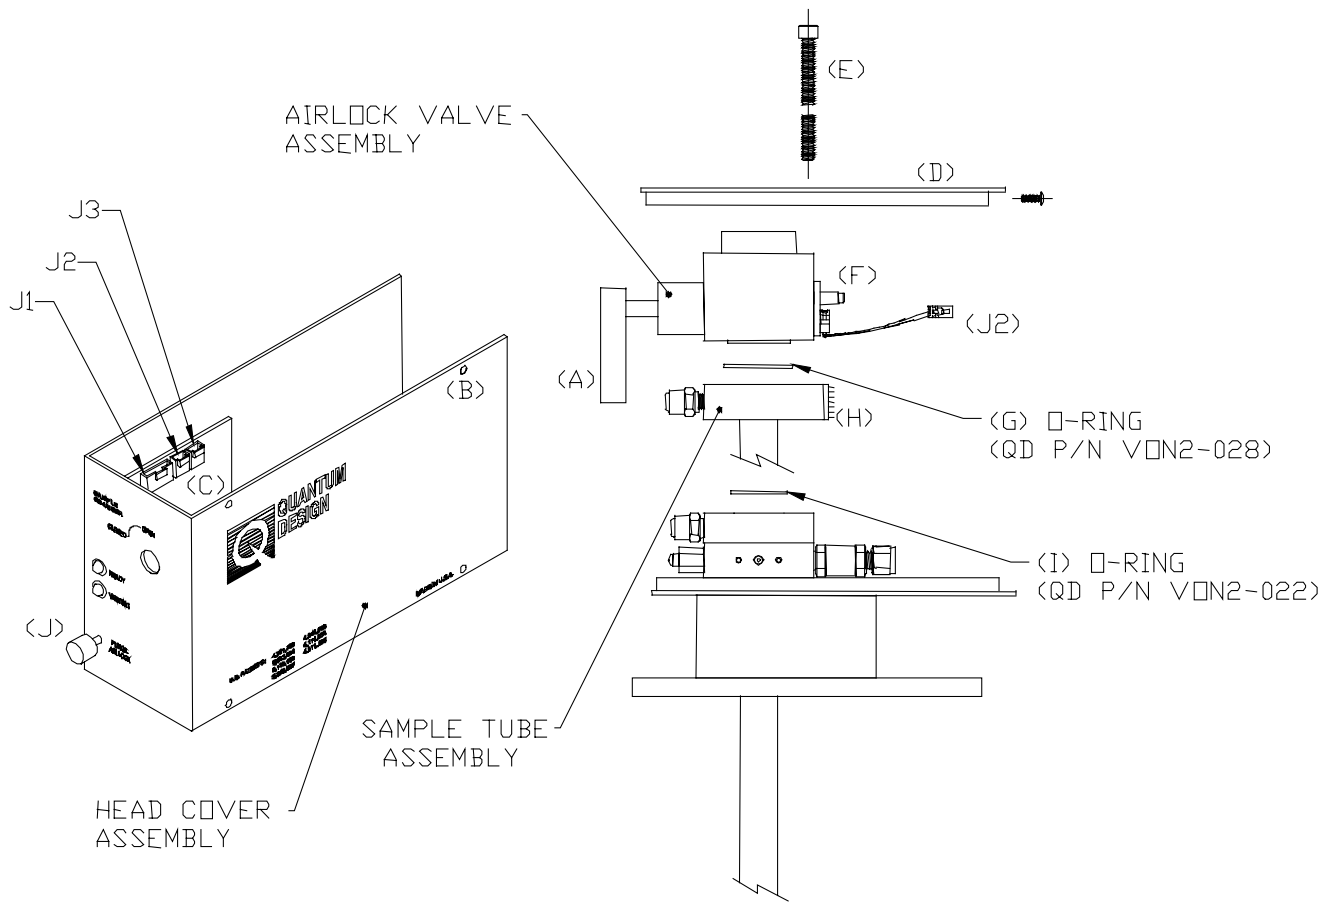

Figure 2. Probe Head
1. Ensure the o-ring, Figure 2I, at the bottom of the sample tube block, Figure 2, is adequately greased (Apiezon M).
1. Seat the top plate on the airlock valve assembly, Figure 2.
3. Install the two 6-32 screws (**Figure 2.K**).
1. Purge the system several times by pressing the Purge Air Lock button, Figure 2.